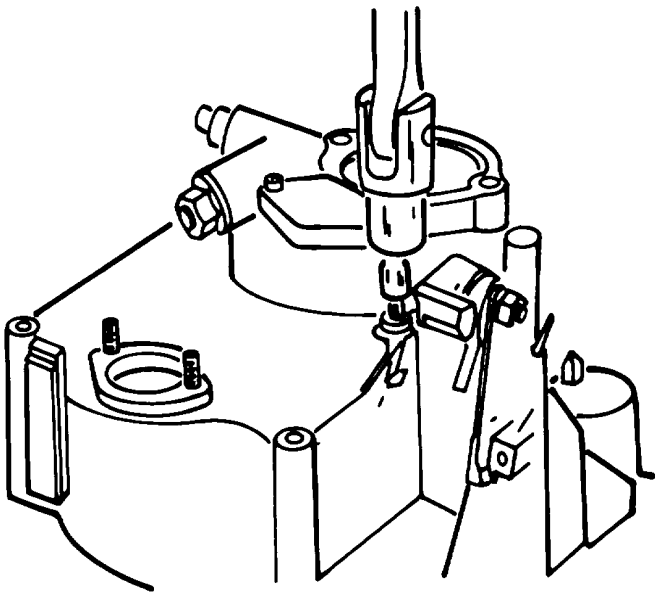

Figure A-23. Gear Cover
r. Gear Cover. Using a 6mm **pilot** allen socket, remove the six gear cover screws. Remove the gear cover. If necessary, tap on the gear cover with a soft faced hammer to loosen it. If, when removing the cover it should catch on the governor beneath, turning the flywheel slightly will free it. (Figure A-23.)